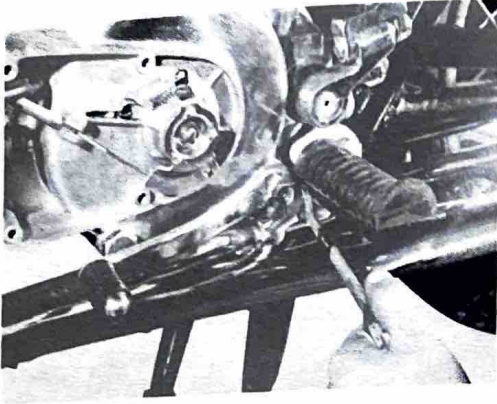

Fig. 4-1-4
4. Remove the gear change pedal and dust seal. (Figs. 4-1-4 and 5)